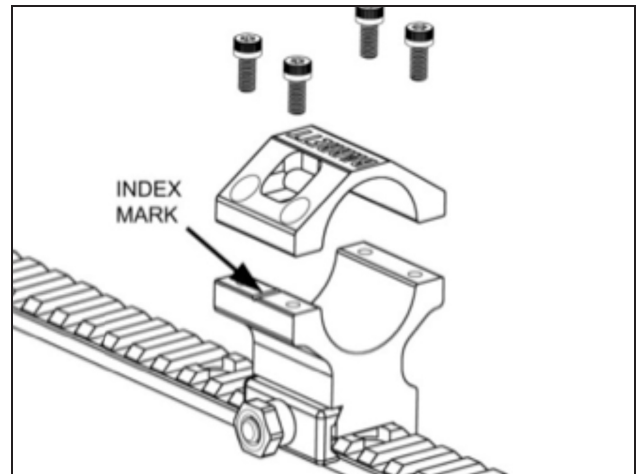

Figure 5.
- Use the front Scope Ring to hold the riflescope in the rings. Remove the front scope ring cap using the T-25 Torx wrench. Place the riflescope in lower rings, and start the threads of the cap screws (4) into the front lower ring. Tighten the indexed side only. The scope should still be able to move in the scope rings, loosen slightly if required. Figure 5.